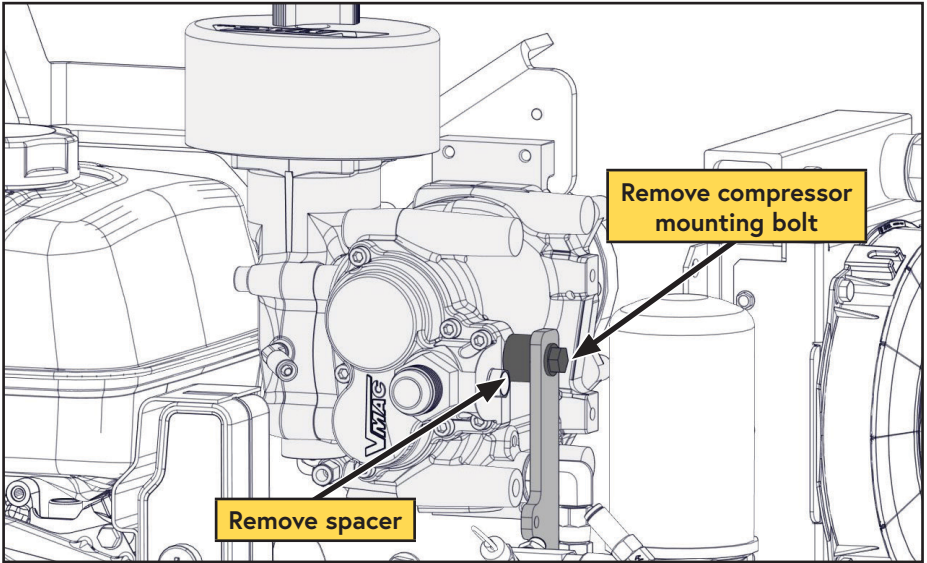

Figure 72 — Remove compressor
- Remove the bolt from the side of the compressor (Figure 72).